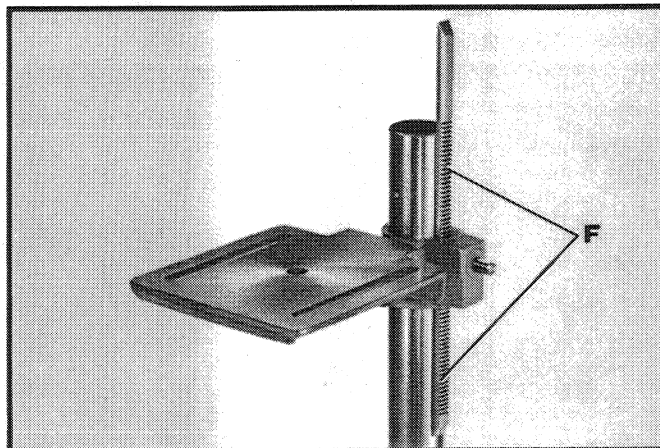
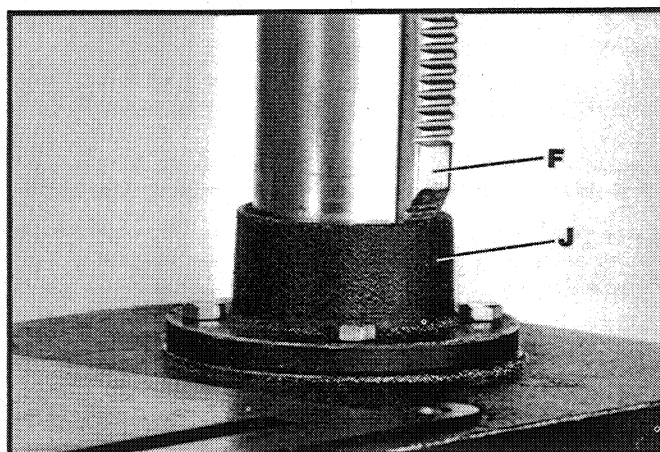

Fig. 7
Fig. 8
4. Slide raising rack (F) Fig. 7, table and table bracket onto drill press column, as shown. Make sure bottom of raising rack (F) Fig. 8, is engaged with flange (J) on drill press base.